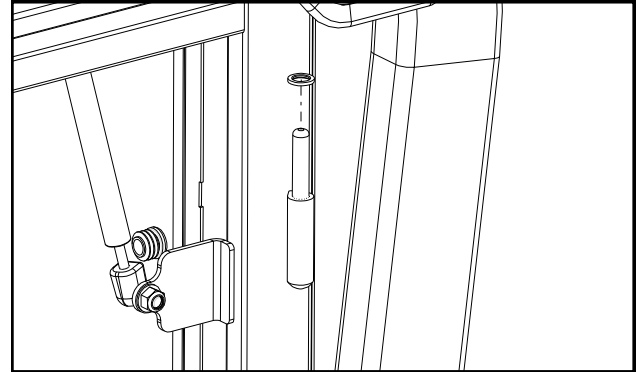
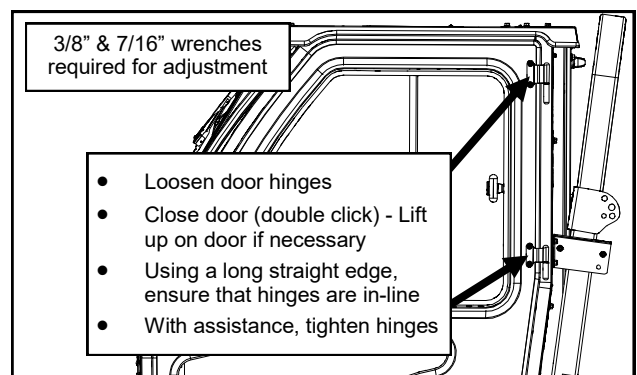

Fig. 20.1 (door hinge washers installation)
Fig. 20.2c (door hinge adjustment)
20.1 Start out by applying grease to the hinge pins, reinstall all (4) door hinge washers per fig. 20.1. Reinstall the doors into their respective hinge sleeves located on the sideframes. See fig. 20.2c.
- Adjust the hinges located at the rear of the door - See fig. 20.2c